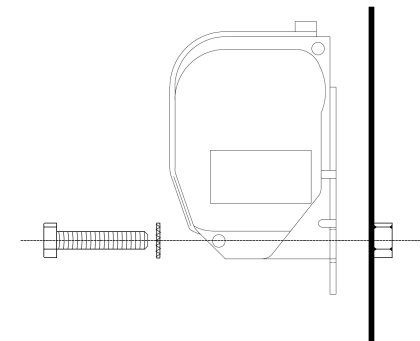

Fig. 4
4. Figure 4 diagrams mounting a 90°-90° retractor directly to a vertical structure.